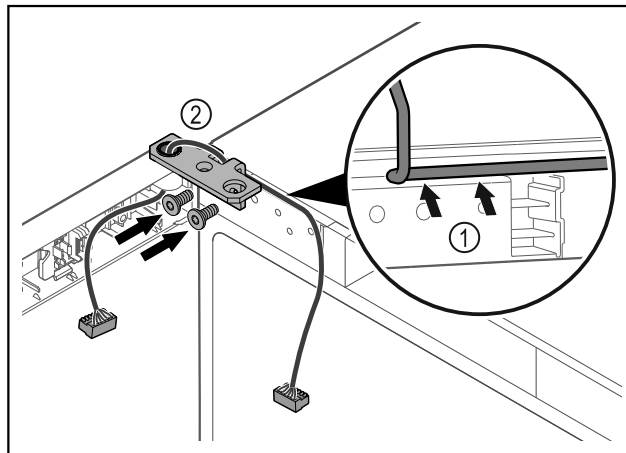

Fig. 48
- ▶ Feed the cable through the recess in the hinge and lay it carefully Fig. 48 (1).
- ▶ Screw on the hinge Fig. 48 (2).